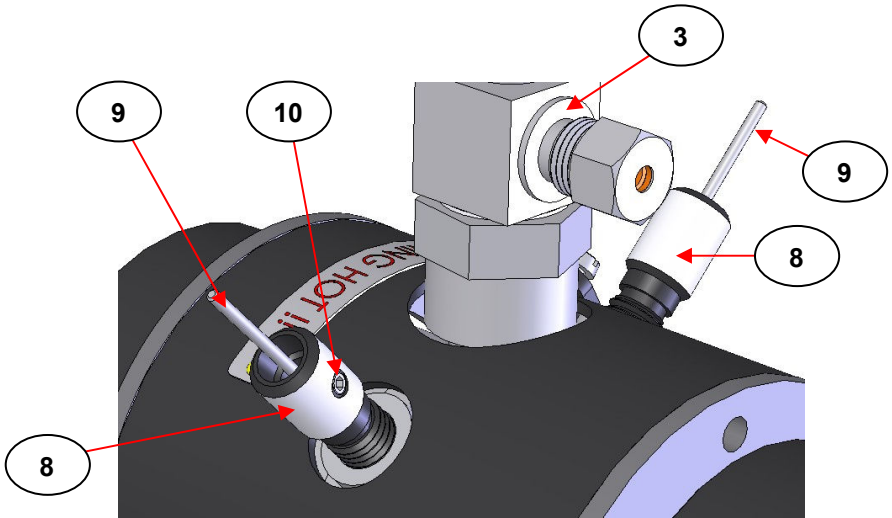

Fig 4. Configuration of the Storm™ 10H Heated Gas Cell for the Inlet/Outlet Ports Supplied from New
As supplied from new, on the body of the Gas Cell (2) at both of the inlet/outlet connection ports (7) are thermocouple mounting screw fittings (8) that have been filled with a 1/16" O.D. stainless steel pin rod (9). The pin rod (9) is held within the mounting screw fitting (8) by an M3 x 3mm grub screw (10) tightened against the pin rod. (See Fig 4.).